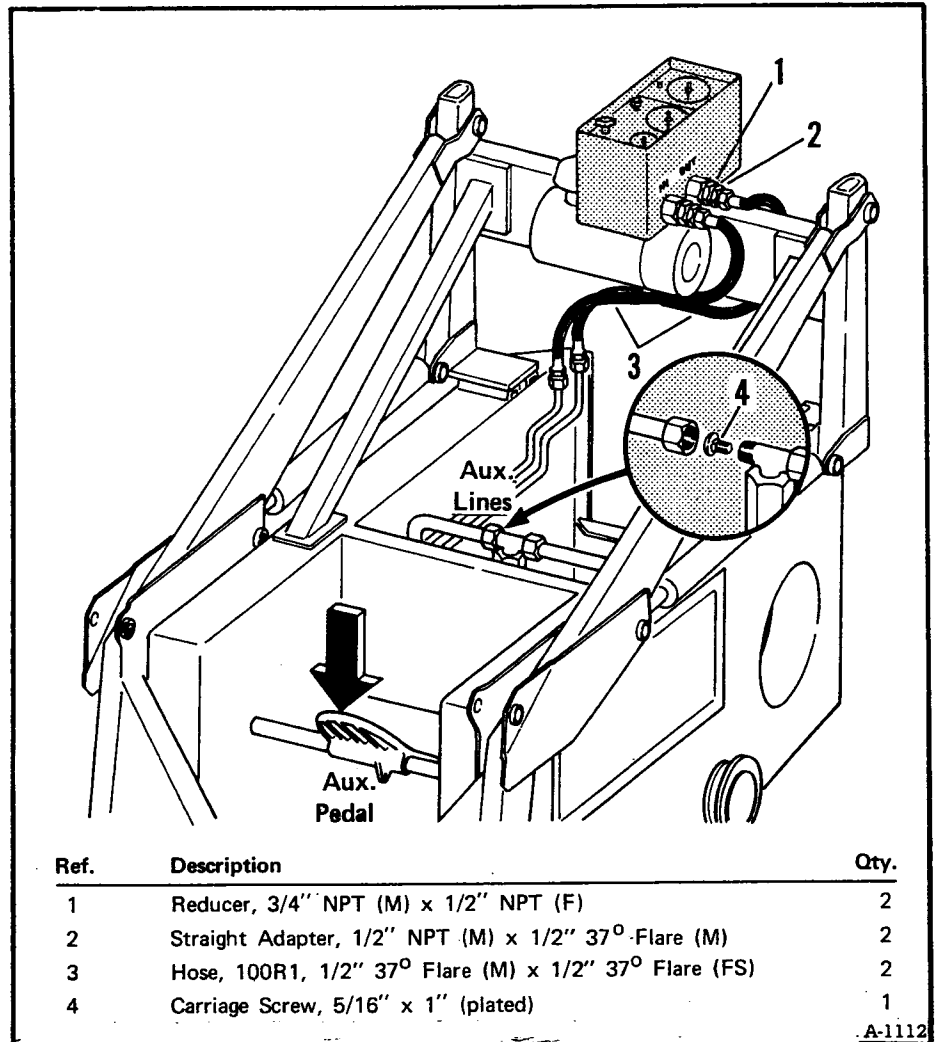

Fig. 117 Checking Cartridge Relief Pressure Setting
1. Reconnect the tester to the auxiliary tubelines at the rear of the machine. Connect a hose from the rear auxiliary line to the outlet port of the tester. Connect a hose from the front auxiliary line to the inlet port of the tester (Figure 117).
5. Press the toe of the auxiliary control pedal down and hold it (Figure 117).